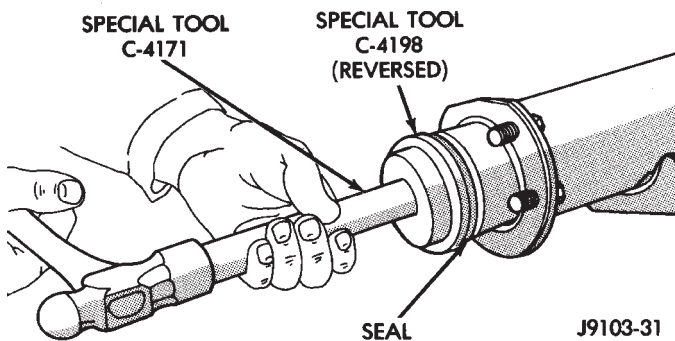

Fig. 6 Axle Shaft Seal Installation
- (3) Insert the bearing into the tube. Ensure that the bearing is not cocked and is seated firmly against the tube shoulder.
- (4) Install the new axle shaft seal (Fig. 6) with Installer C-4198 and Handle C-4171. The flat side of the installation tool must face the seal.